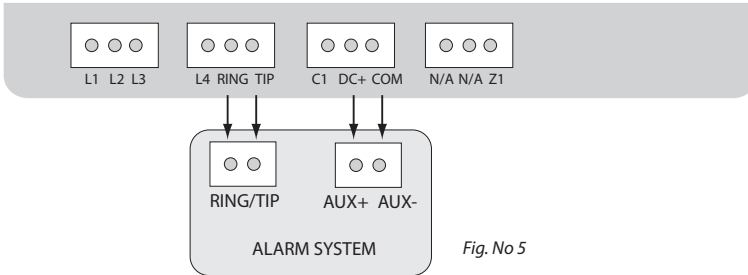

Fig. No 5
1. Connect the circuit as indicated in Fig. No. 5 – connect telephone contacts of the alarm system RING/TIP to RING/TIP contacts of the communicator.